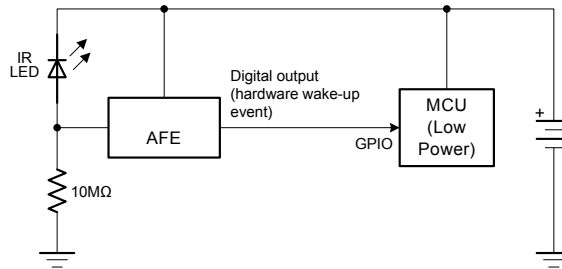

Figure 9-2. Coin Cell Battery Powered IR Receiver
Infrared (IR) communication is inherently immune to RF interference as long as there is a line-of-sight path between the transmitter and the receiver. It is also one of the lowest cost communication schemes. This makes it a good choice for implementing wireless communications in applications such as utility metering. A common system topology to extend battery life is to use a power efficient IR receiver analog front end (AFE) that is always on and wakes up the host only when there is a valid IR signal detected as shown in Figure 9-2.
Figure 9-2 shows the IR receiver system block diagram. The host MCU is normally in the shutdown mode (during which the quiescent current is less than 1 μ A) except when data is being transferred.